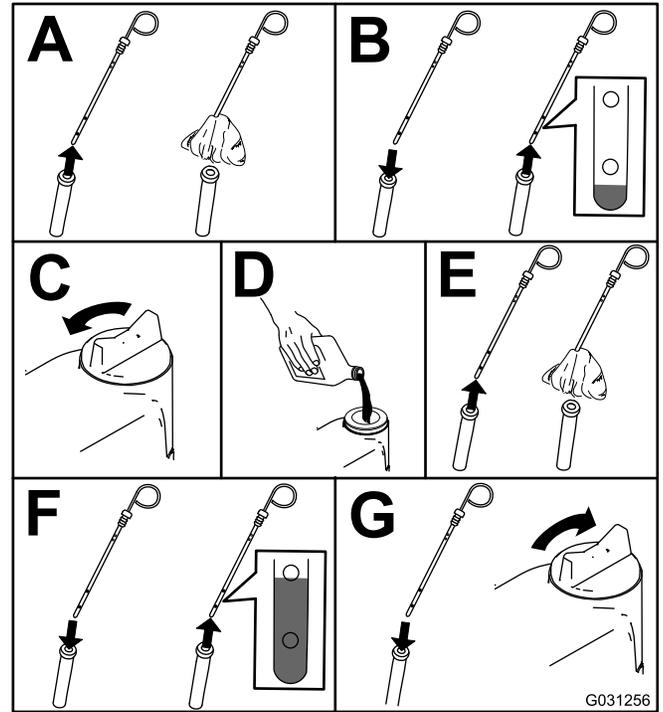

Figure 53
2. Check the engine-oil level; refer to Figure 53.